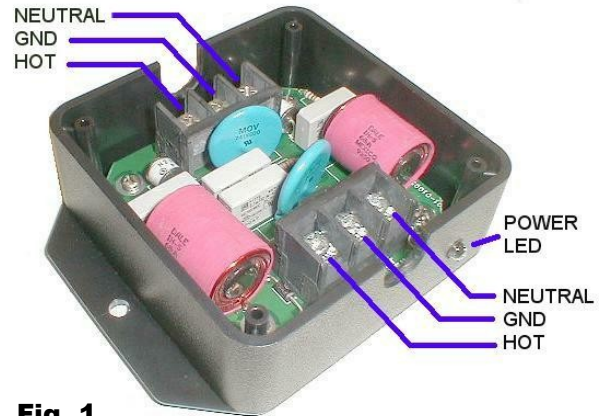

Fig. 1
3. Attach the incoming 110VAC power wires to the terminal block opposite the power LED. The HOT, GND, and NEUTRAL terminals are labeled on the circuit board beside the terminals. Refer to Fig. 1 for terminal labels.
4. Attach the outgoing power to the terminals at the power LED side of the SS1. Refer to Fig. 1 for terminal labels. Do not connect equipment which will draw more than 7 Amps at any time.